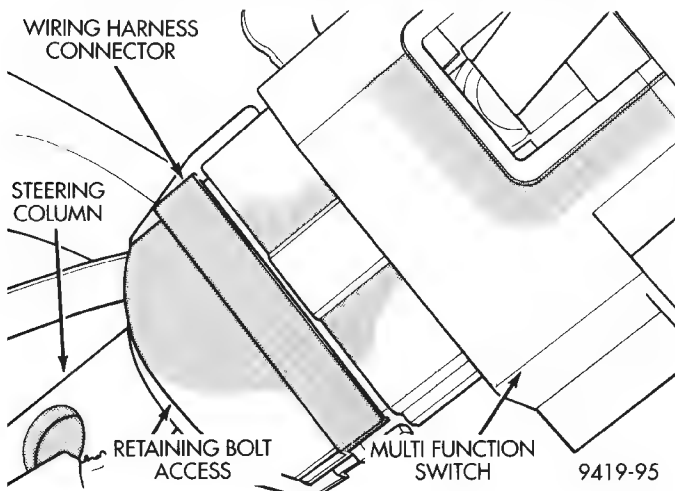

Fig. 18 Multi Function Switch Wiring Harness Connector Installed
(5) Install wiring harness connector onto multi function switch (Fig. 18). Torque multi function switch wiring harness connector retaining bolt to 2 N·m (17 in. lbs.).